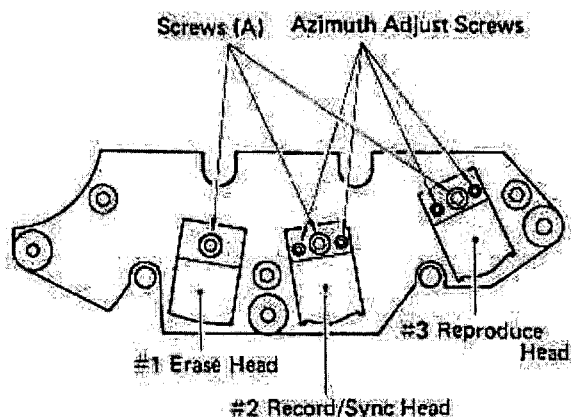

Fig. 9-5-5. Head Adjustment Screws
2. While observing the VU meters, temporarily increase the back tension to the left reel by lightly applying pressure by hand. If sufficient contact pressure is applied to the head while the tape is running, no change will be noticed on the meter when the back tension is increased. However, if insufficient pressure is applied to the head, the deflection needle will show increased deflection due to contact pressure caused by the back tension. To adjust, loosen the retaining screw (A); that'll be the center screw at the rear of the head as shown in Fig. 9-5-5. Then, change the direction of the head for proper alignment.
3. With the test tape signal at 16 kHz, determine the point where maximum level of each channel is obtained and retighten the retaining screws (A) at that position.